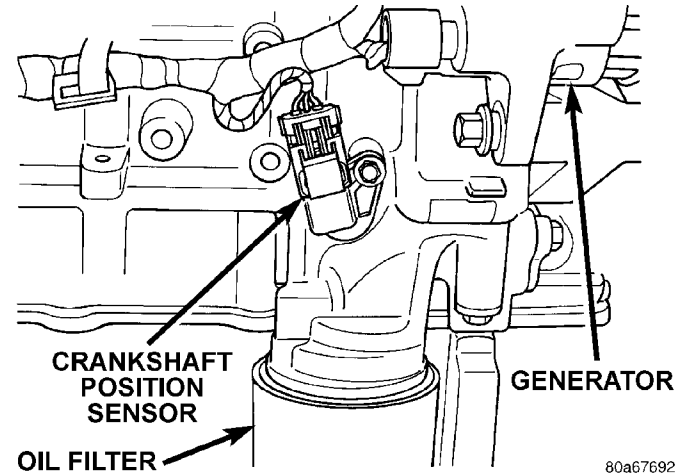

Fig. 69 Crankshaft Position Sensor
(18) Inspect the electrical connector at the crankshaft position sensor (Fig. 69).